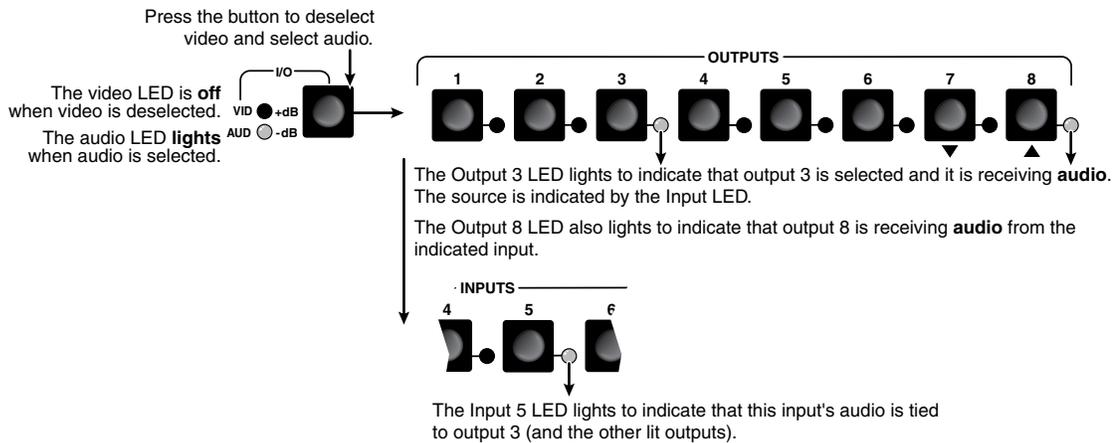

Figure 3-25 — Deselect video to view audio ties only
- Press and release the I/O button (figure 3-25).